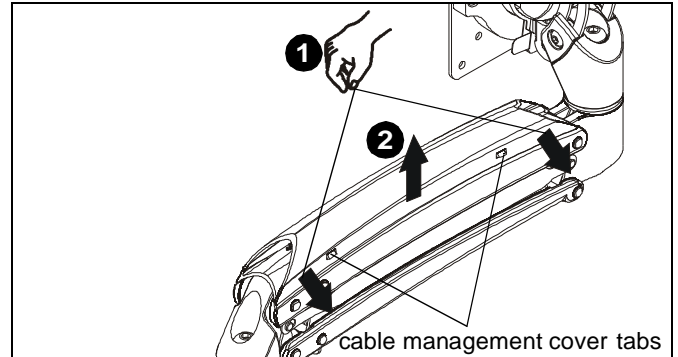

Figure 28
1. Press insides of cable management covers at both ends to unhinge tabs on either end of cable management cover on upper arm. (See Figure 28)
2. Lift cable management cover up until tabs are unhinged and cover is in the "open" position. (See Figure 28)